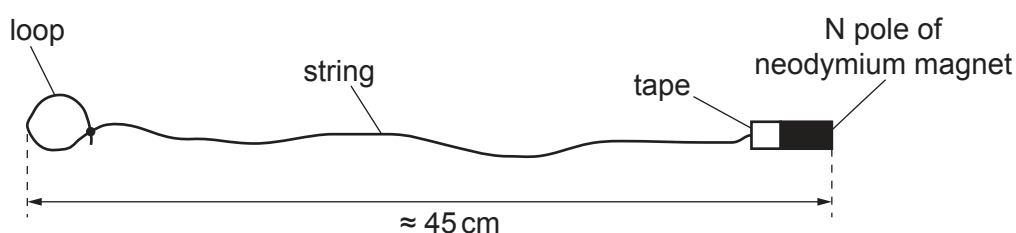

Fig. 1.1
- 2 The neodymium magnet should be securely attached to the string using tape in the orientation shown in Fig. 1.1.